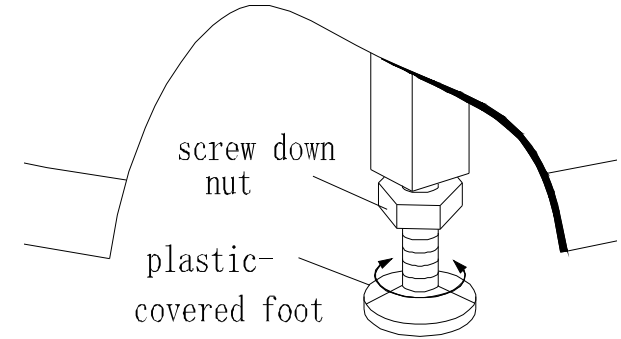

Fig. 2
1、 Adjust the fang bolt ---move the bathtub to the suitable place,adjust the bottom of the screw, make it down to the ground. (As the Fig.2)